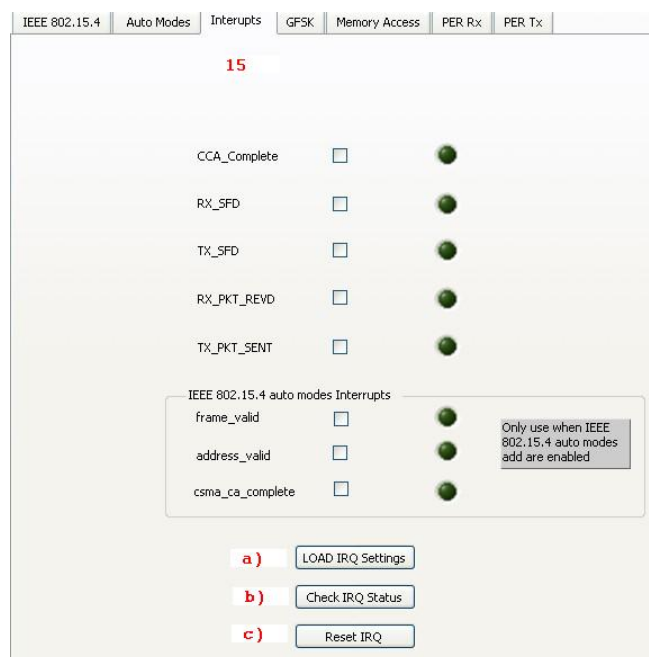

Figure 4 Interrupts tab
15. There are two IRQ pins on the ADF7241. The IRQ1 pin is used as the interrupt pin on the evaluation board. Figure 4 shows the interrupt tab.